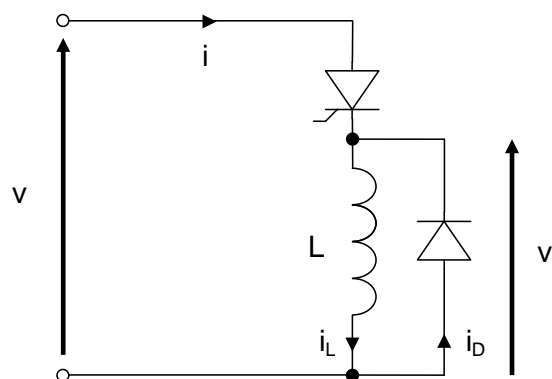

Figure 2
- (c) In the circuit shown in Figure 2, the thyristor is turned on at time $t = 0$, where the supply voltage, v , is given by